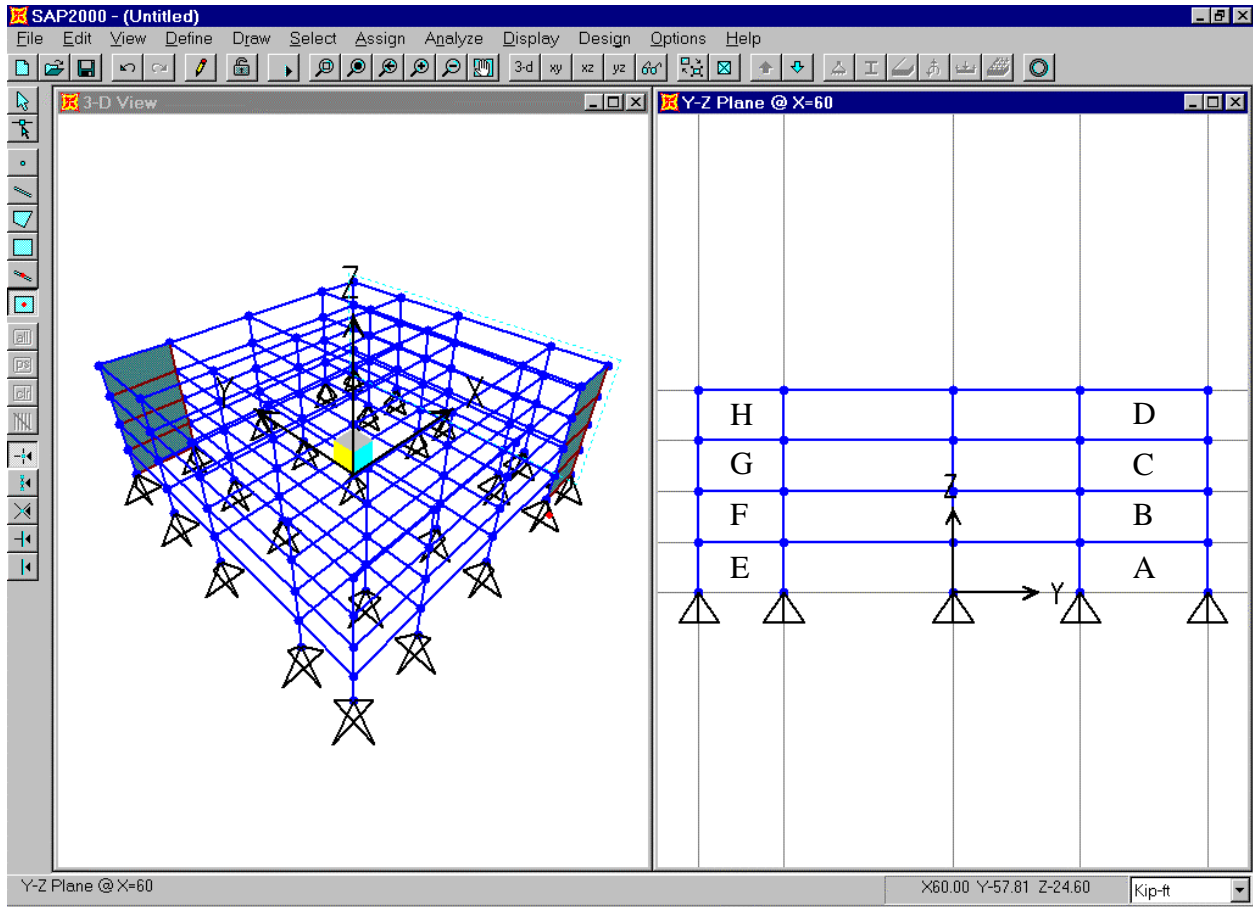

Figure Z-2: Screen After Step 21
- Click the **OK** button. The screen appears as shown in Figure Z-2.
22. Click once in each of the area labeled “A”, “B”, “C” and “D” in Figure Z-2 to enter four shell elements.
- Click the **OK** button. The screen appears similar to that shown in Figure Z-2 (except that the location is now at X=-60).
25. Click once in each of the area labeled “E”, “F”, “G” and “H” in Figure Z-2 to enter four shell elements. This completes the drawing of the shear walls.